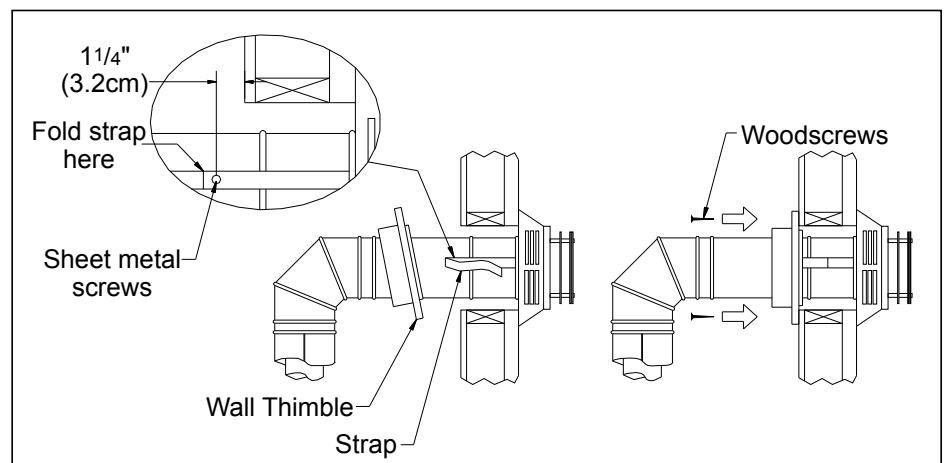

Figure 33: Installing Decorative Wall Thimble.
6. Slide the appliance and vent assembly towards the wall, carefully inserting the vent pipe into the cap assembly. It is important that the vent pipe extend into the vent cap a sufficient distance with a minimum of 1¼" (3.2cm) overlap. Secure the connection between the vent cap pipe and the vent cap by attaching the two sheet metal straps extending from the vent cap assembly into the outer wall of the vent pipe. Use the two sheet metal screws provided to connect the straps to the vent pipe. Bend any remaining portion of the sheet metal straps back towards the vent cap, so the decorative wall thimble will conceal it (see left image in Figure 33).
7. Slide the decorative wall thimble up to the wall surface and attach with the screws provided. Apply decorative brass or chrome trim if desired (see right image in Figure 33).